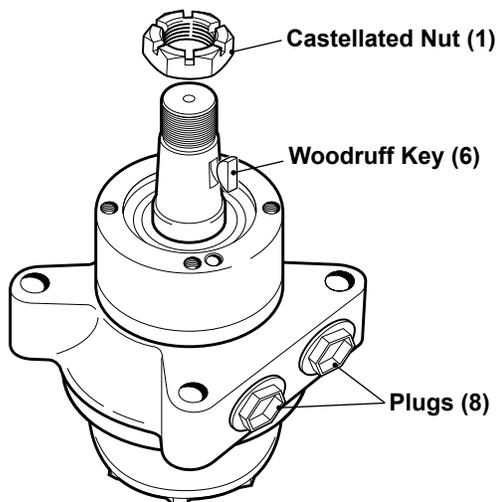

Figure 4, Nut, Woodruff Key and Plugs
2. Remove the castellated nut (1). See figure 4.
3. Remove the woodruff key (6) and the plastic plugs or fittings (8), if installed. See figure 4. Drain oil from the motor.